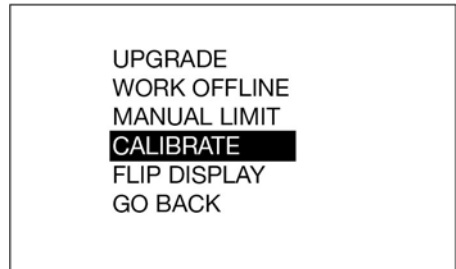
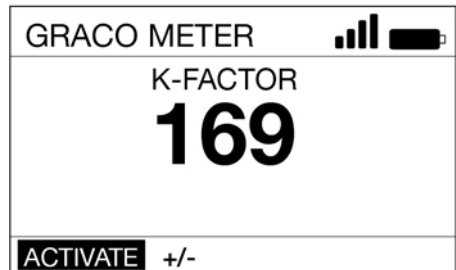

FIG. 20
FIG. 21
4. Select the **CALIBRATE** option (FIG. 20) to display the calibration K-Factor screen shown in FIG. 21.
5. Select **ACTIVATE** and press the **ENTER** button to begin metered dispense valve calibration (FIG. 21).